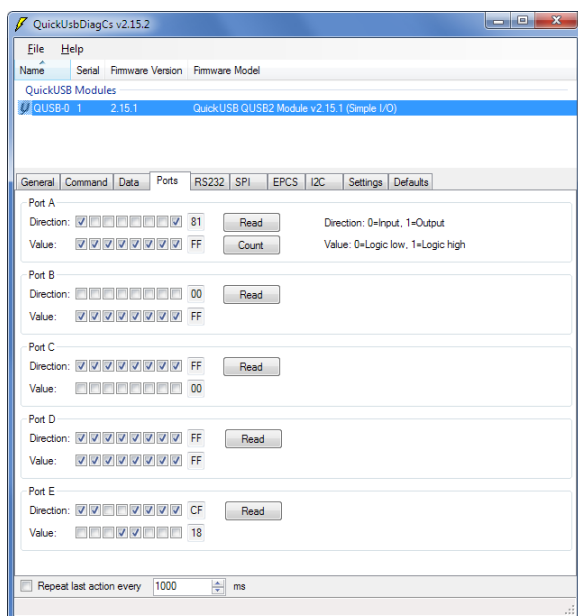

Figure 4 – Reset the Counter Demo with the QuickUSB Diagnostics Program
- b. Navigate to the “Ports” tab. Under “Port A”, check Bit 7 in the “Dir” bit checkbox field to set PA7 as an output (see Figure 4)
- c. Under “Port A”, check Bit 7 in the “Value” bit checkbox field to drive PA7 high. This will enable power to the FPGA (see Figure 4).
- b. Under “Port A”, check Bit 0 in the “Dir” bit checkbox field to configure PA0 as an output, as shown in Figure 4